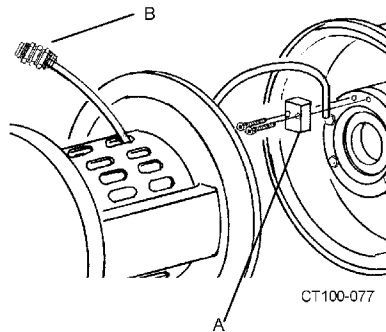

Figure 33 - Installing the Water Cascade System
10. If your system has a water cascade, thread water cascade hose through the guard and install cascade block on backplate. (Figure 33, items A and B).